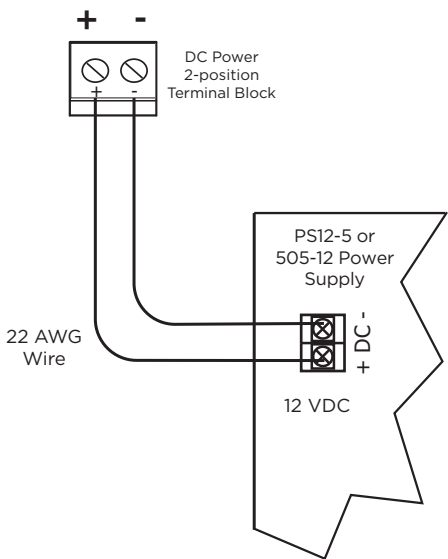

Figure 3: Power Supply Connection
- 2. Observe positive and negative polarity on all connections. See Figure 3.